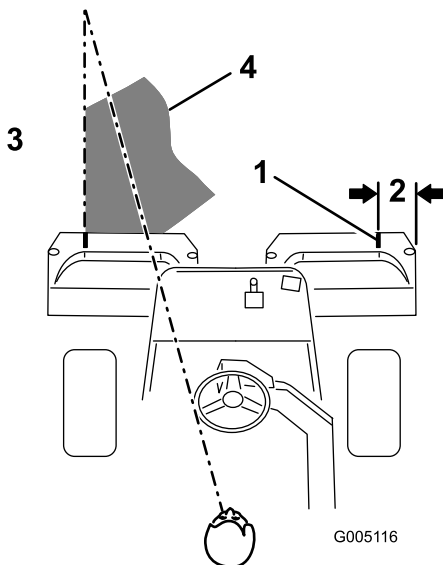

Figure 36
**Note:** To assist in maintaining a straight line across the green and keeping the machine an equal distance from the edge of the previous cut, imagine a sight line approximately 1.8 to 3 m (6 to 10 ft) ahead of the machine to the edge of the uncut portion of the green (Figure 36). Include the outer edge of the steering wheel as part of the sight line; i.e., keep the steering wheel edge aligned with a point that is always kept the same distance away from the front of the machine.